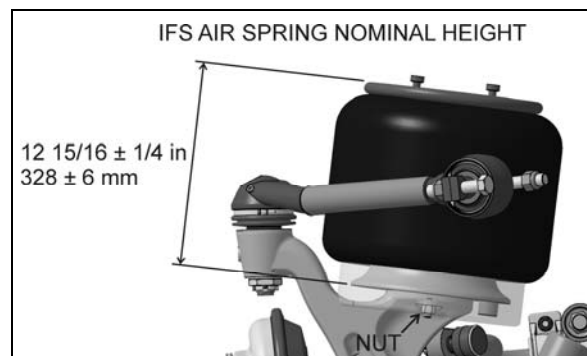

FIGURE 34: AIR SPRINGS
5. Install the shock absorber as shown in figure 34 with the mounting stud protruding through the hole in the mounting bracket and the shock absorber eyes over the mounting pins. Install the outer washer.